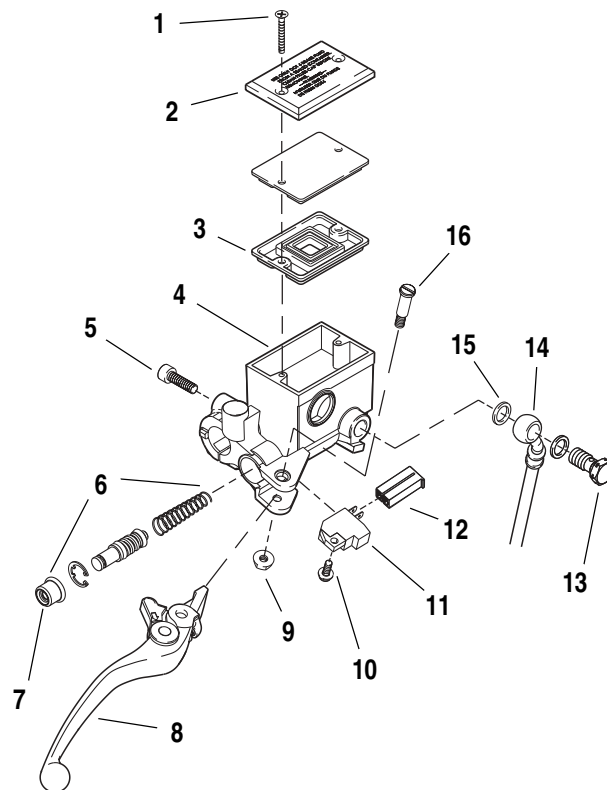
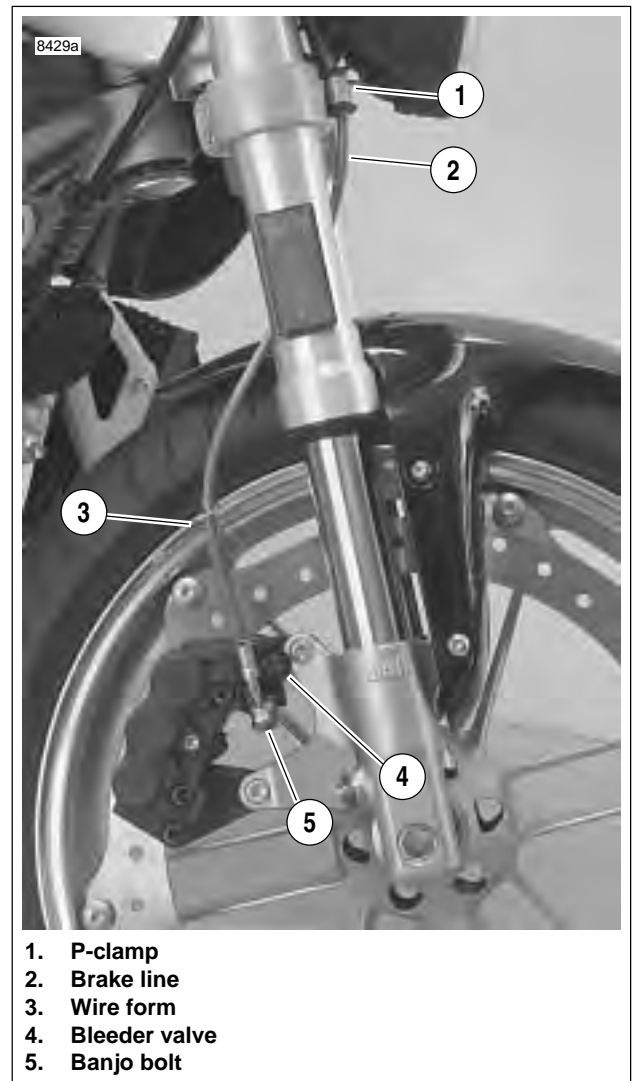

Figure 2-34. Front Brake Hand Lever Assembly
Figure 2-40. Front Brake Line
2. See Figure 2-34. Remove the banjo bolt (13) (metric) and two copper washers (15) to disconnect brake line (14) from master cylinder (4). Discard copper washers.
3. Unplug terminal (12) to detach brake lamp switch (11).
1. See Figure 2-34. Remove pivot bolt nut (9) (metric) and pivot bolt (16) from hand lever pivot.
2. Detach front brake hand lever assembly (8) from hand lever pivot.
3. Detach front brake lamp switch (11) by removing the switch fastener (10).
1. See Figure 2-34. Remove master cylinder cover (2) by removing cylinder cover fasteners (1).
3. Remove rubber boot (7) and discard.
5. See Figure 2-34. Remove piston assembly (6) from front master cylinder reservoir (4) and discard.
4. See Figure 2-34. Insert piston assembly (6), spring first, into master cylinder reservoir (4).
1. See Figure 2-34. Lubricate pivot bolt (16) with LOCTITE ANTI-SEIZE.
2. Align hole in hand lever (8) with hole in hand lever pivot and install pivot bolt (16) through top of hand lever pivot and tighten to 80-120 **in-lbs** (9-14 Nm).
1. See Figure 2-34. Install front brake lamp switch (11).
- a. Install brake lamp switch (11) with switch fastener (10) and tighten to 7-10 **in-lbs** (0.8-1.0 Nm).
- b. Connect brake switch terminal (12) to brake lamp switch (11).
3. See Figure 2-34. Connect brake line to master cylinder using two **new** copper washers (15) and banjo bolt (13) (metric) and tighten to 16-20 **ft-lbs** (22-27 Nm).
5. See Figure 2-34. Remove two master cylinder cover screws (1), cover (2) and cover gasket (3).
9. See Figure 2-34. Attach master cylinder cover (2) and cover gasket (3). Tighten two cover fasteners (1) to 9-13 **in-lbs** (1.0-1.5 Nm).
4. See Figure 2-34. Remove master cylinder banjo bolt (13) (metric) and two copper washers (15) to disconnect brake line from master cylinder (4). Discard copper washers.
1. See Figure 2-34. Connect brake line (14) to master cylinder (4) using two **new** copper washers (15) and a banjo bolt (13) (metric). Loosely install bolt into master cylinder.
- a. See Figure 2-40. Install **new** copper washer, brake line (2), **new** copper washer and wire form (3) onto banjo bolt (5).
- b. Finger tighten banjo bolt (5) onto front caliper being careful not to pinch wire form (3) while tightening, wire form should rotate around banjo bolt freely.
- c. Twist brake line (2) into wire form (3) spiral and clock wire form against bleeder valve (4).
4. Tighten p-clamp with fastener (1) on lower triple clamp to 36-60 **in-lbs** (4-7 Nm).
5. See Figure 2-34. Tighten master cylinder banjo bolt (13) (metric) to 16-20 ft-lbs (22-27 Nm).
6. See Figure 2-40. Tighten brake caliper banjo bolt (5) (metric) to 16-20 ft-lbs (22-27 Nm).